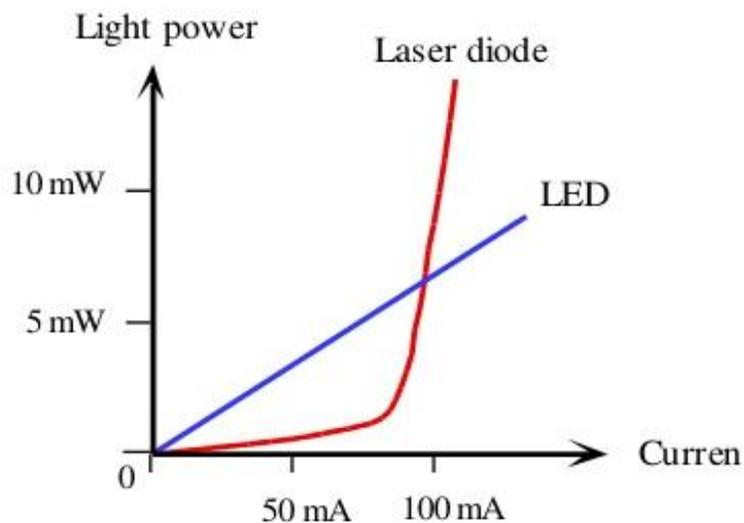

Figure 1 – Relationship between drive current and optical power output for LED and Laser diode
As shown in figure 1, the output power varies linearly with drive current. The result is that total modulating current (i) and resulting optic power (P) can be expressed as.